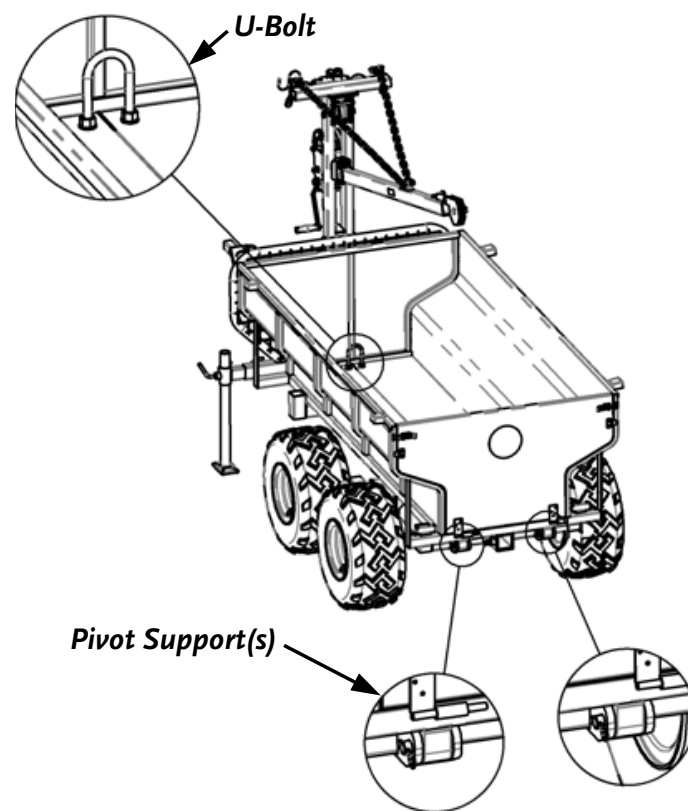

Figure 46
4. With the assistance of **at least** one other person, turn the Bed back over and place the Bed on the Trailer in the orientation shown in **Figure 46**, with the U-Bolt at the front of the Trailer and the Dumping Pivots on the Bed placed between the Pivot Supports on the Rear Bed Support.